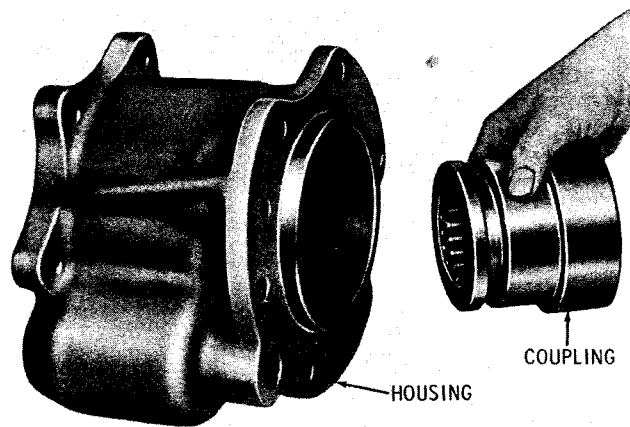
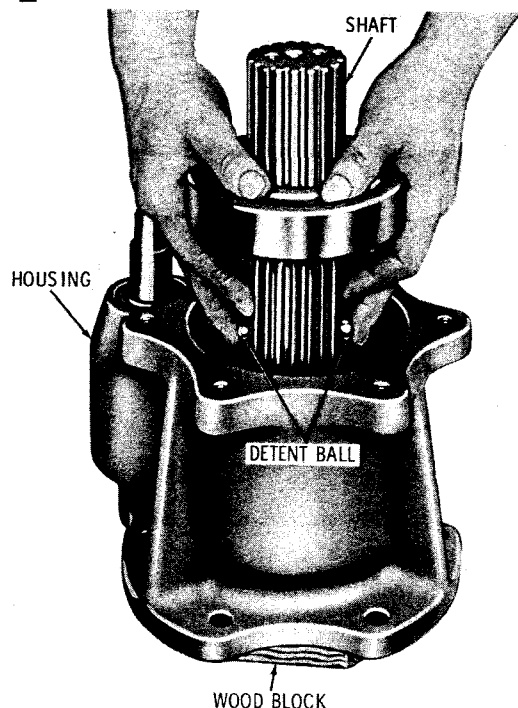

Fig. 6-3. Removing (or installing) disconnect coupling
Fig. 6-5. Installing power takeoff output shaft
(7) Remove the disconnect coupling (fig. 6-3).
(3) Install the disconnect coupling, grooved end toward the output (rear) end of the housing (fig. 6-3). Engage the groove in the coupling with the shifter fork.
(4) If thrust washer 18 (foldout 14), bearing inner race 17, and snap ring 16 were removed, install them onto shaft 22.
(5) Press bearing 23 onto shaft 22, and seat it firmly against the shaft shoulder.
(6) Position the housing, base downward, over small blocks or a sleeve, which will support the disconnect coupling and provide room for the shaft to be installed (fig. 6-5).
(7) Install detent spring 20 into the shaft, with detent balls at the spring ends. While holding the balls against the spring, install the shaft into the disconnect coupling splines (fig. 6-5). Push the shaft in until the coupling retains the detent balls.
(8) Seat the bearing against the shoulder in the housing bore. Install gasket 24 (foldout 14) and retainer 25.
(9) Install six 1/2-13 x 1 1/2-inch bolts 27, with lock washers 26. Tighten the bolts to 67 to 80 pound feet torque.
(10) Install output flange 29. If the flange is interference fit, refer to paragraph 4-8b for installation procedures.